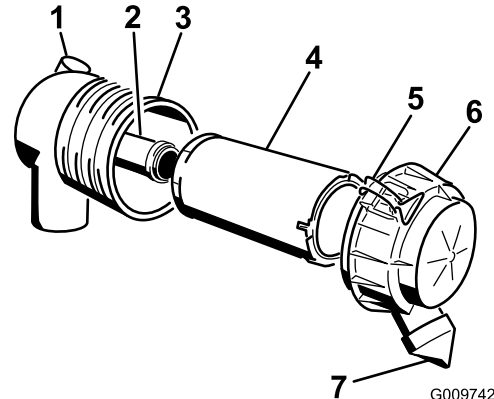

Figure 61
1. Gently slide the primary filter out of the air-cleaner body (Figure 61).
4. If you are replacing the safety filter, carefully slide the new filter into the filter body (Figure 61).
6. Install the air-cleaner cover with the side indicated as “UP” facing upward and secure the latches (Figure 61).